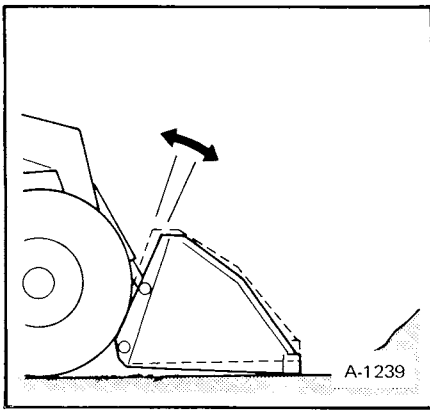

Fig. 17 Cutting Edge Grounded
1. Place lip (cutting edge) of bucket on the ground (Figure 17).